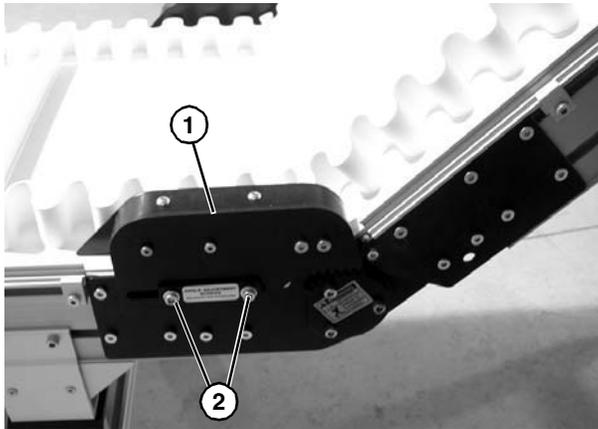

Figure 31
- If equipped, install lower knuckle return roller assembly (**Figure 31, item 1**) with screws (**Figure 31, item 2**) on both sides of knuckle, note the position of the meshing teeth.